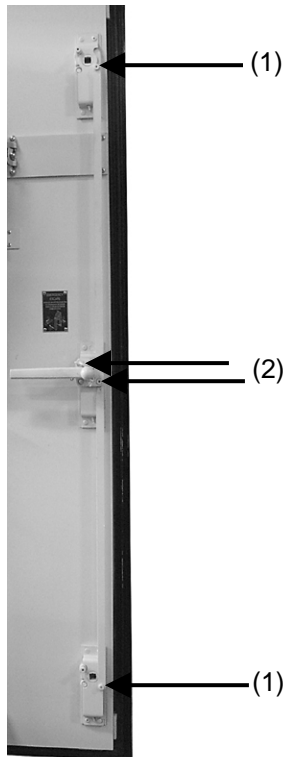

Figure 4-25. Handle and locking bar located on personnel door.
1. Using two hex head bolts (1) and spacers, secure locking bar in place (Fig. 4-25).